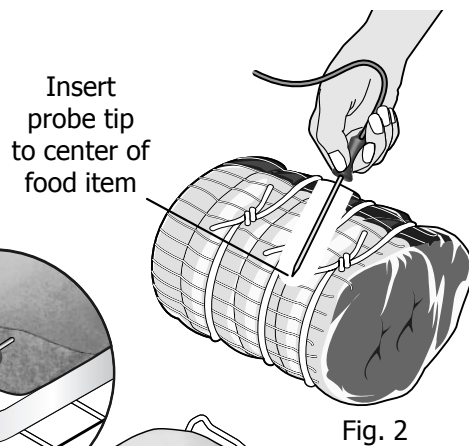

Fig. 2
- For bone-in ham or lamb, insert the probe into the center of lowest large muscle or joint. For dishes such as meat loaf or casseroles, insert the probe into center of food. (See Fig. 2).
1. Prepare food and properly insert the probe sensor into the middle portion of the food (See Figs. 2 & 3). The probe should be inserted into the food before starting the cooking process and while the oven is still cool.